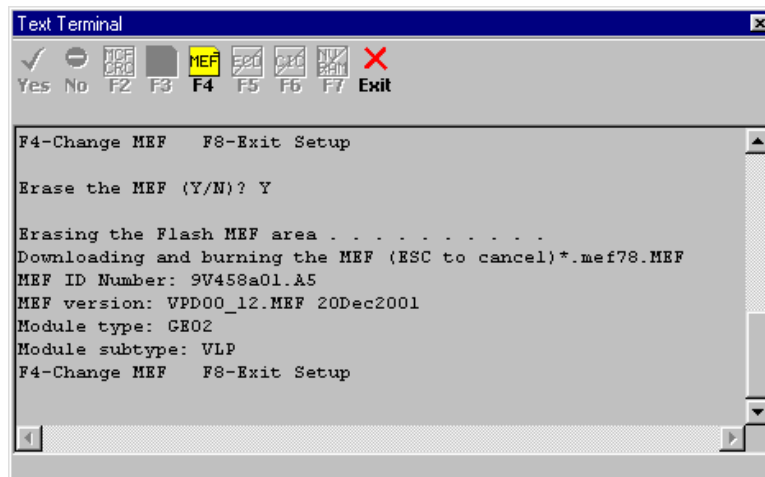

Figure 3-11
10. The Text Terminal screen displays “Erasing the Flash MEF area...” followed by “Downloading and burning the MEF (ESC to cancel)”, and refreshes the screen with the current configuration data (figure 3-11). Notice that all Function Key options are disabled except for **F4** (Change MEF) and the **Exit** button (F8).